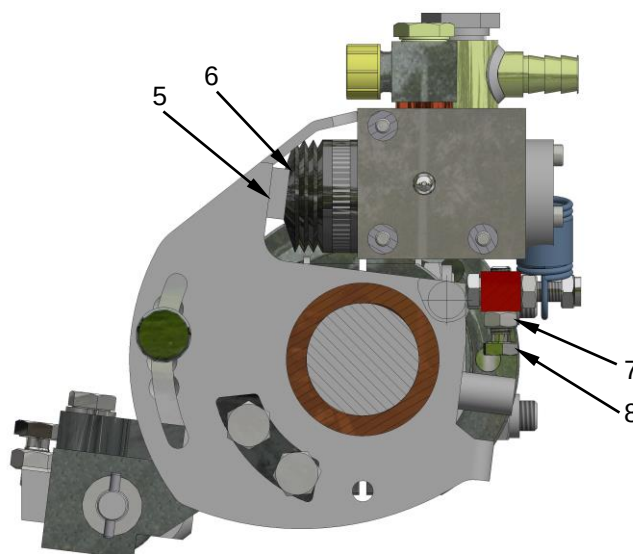

Figure 12 Sensor rod end stop outwards
b) Sensor rod end stop outwards (Figure 12):